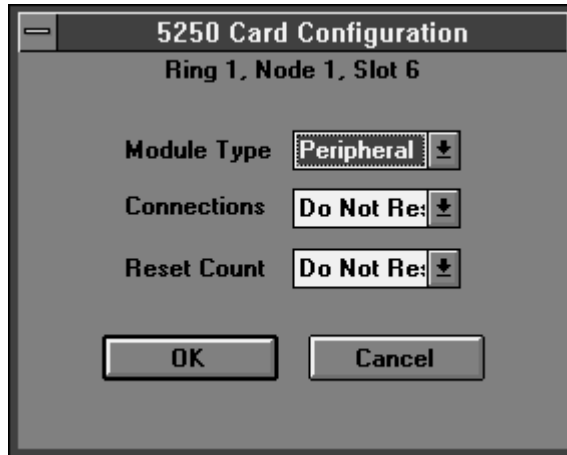

Figure 3-24. 5250 Card Configuration
2. Select Configure from the Tools menu or click on the Configure icon. The 5250 Card Configuration screen appears (refer to Figure 3-24).
2. Select **Configure** from the Tools menu or click on the Configure icon. The card configuration screen appears (refer to Figure 3-24, 5250 Card Configuration).